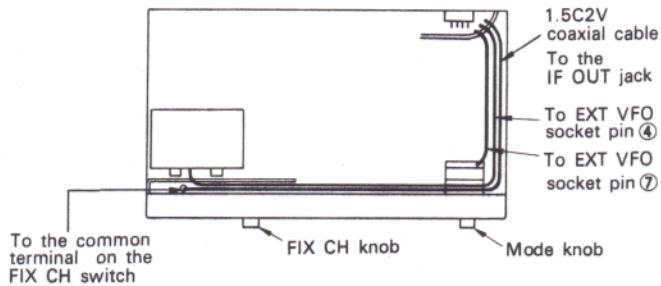

Fig. 11 Viewed from Bottom
1. Remove and insulate the coaxial cable from the IF Out jack. Connect the PLL Ass'y PD Unit (X50-1340-00) TP-4 to the IF Out jack by using the supplied 75Ω 1.5C-2V coaxial cable. Cable layout should be in accordance with Figure 11.
4. Connect TP4 on the PD unit with the IF Out jack by using the supplied 75Ω 1.5C-2V coaxial cable, (Fig. 11).